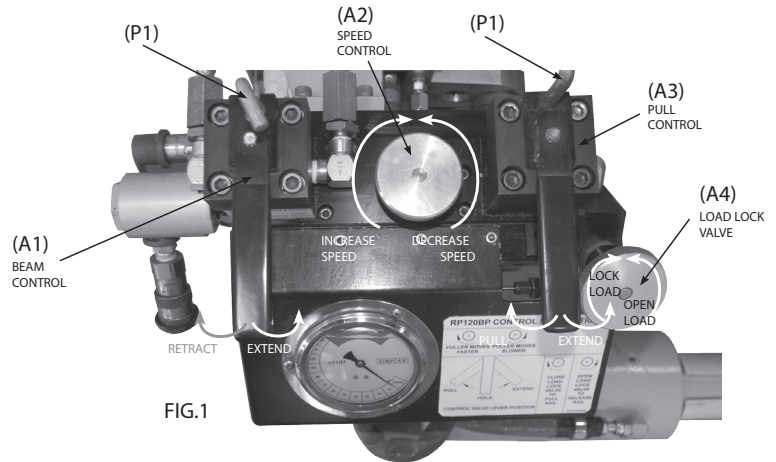

FIG.1
2. Turn the speed control valve {(A2) IN FIGURE 1} clockwise until the beam extends to close and set the swing arms. As soon as the swing arms are closed, reopen the control valve by turning counter clockwise.
3. Close the load lock valve {(A4) IN FIGURE 1} by turning the knob clockwise.
5. Shift the beam control valve {(A1) IN FIGURE 1} to the retract position, and turn the speed control valve {(A2) IN FIGURE 1} clockwise until the beam begins to retract.
6. When the beam stops, shift the beam control valve {(a1) IN FIGURE 1} back to the center position, and reopen the speed control valve {(A2) IN FIGURE 1} by turning counter clockwise.